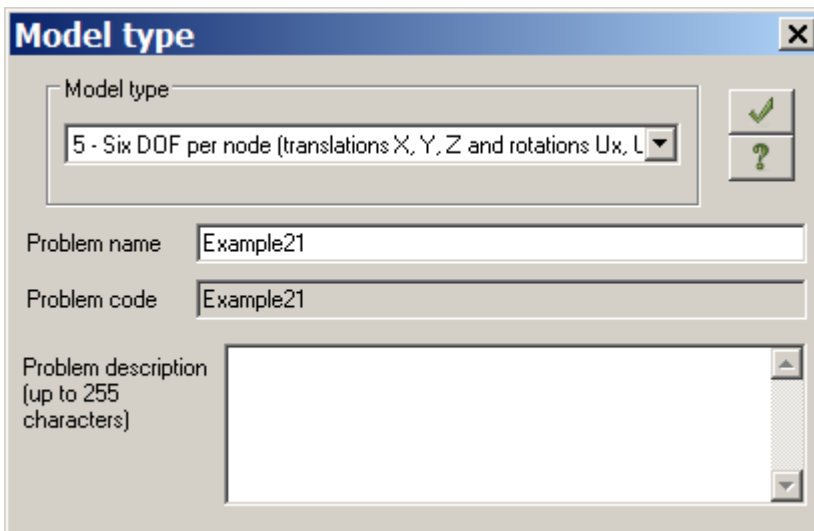

Figure 21.1 **Model type** dialog box
- ⇒ In the **Model type** dialog box (see Fig.21.1) specify the following data: